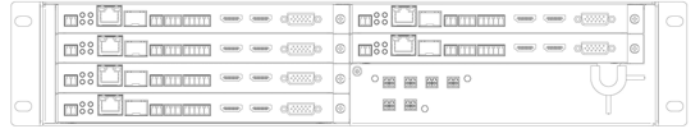

FIG. 2 FULLY POPULATED CARD CAGE
5. Repeat these steps until all cards are properly installed. See FIG. 2.